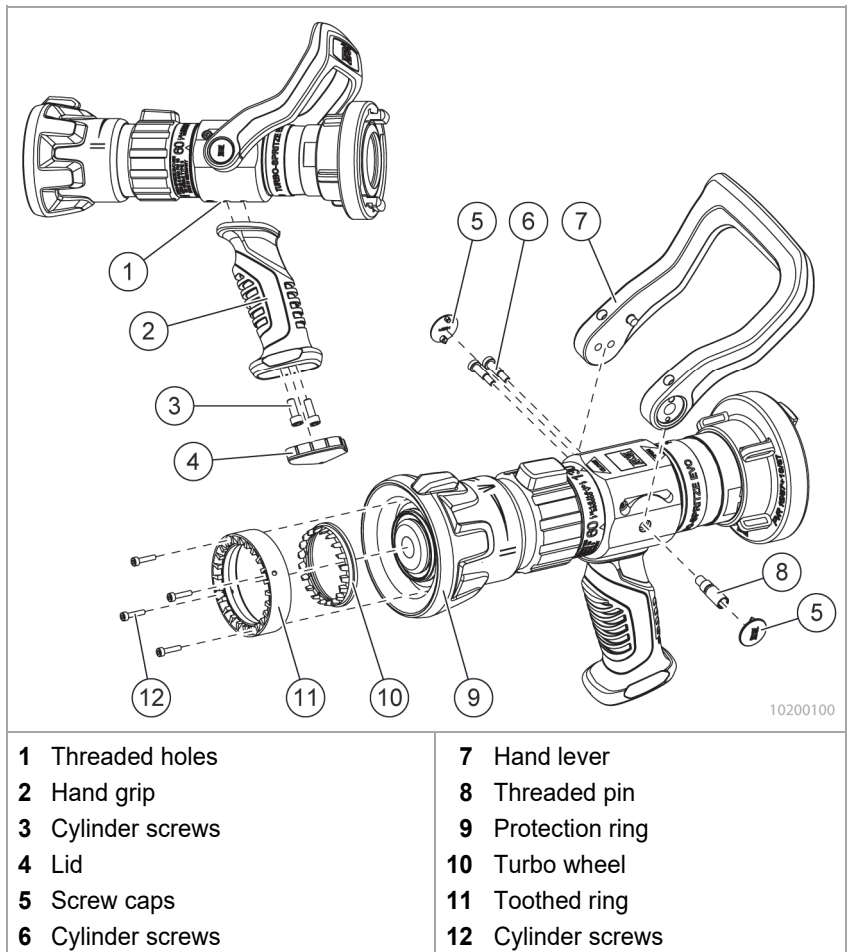

Fig. 3 Replacing the handle and hand lever
1. Remove the cover (Fig. 3/4) on the handle; this will damage the cover.
2. Unscrew the two cylinder screws (Fig. 3/3) and remove the handle (Fig. 3/2). Clean the housing if necessary.
3. Insert a cylinder screw into the borehole of the new handle, position the handle on the corresponding threaded hole of the housing (Fig. 3/1) and screw it tight.
1. Remove the screw caps (Fig. 3/5), this will damage the caps.
2. Unscrew the threaded pin (Fig. 3/8) and the cylinder screws (Fig. 3/6).
3. Remove the control lever (Fig. 3/7) and clean the valve housing if necessary.
4. Position the control lever in the correct position on the valve housing and screw it tight on one side with the threaded pin (Fig. 3/8).
5. Apply a medium-strength screw locking agent to the cylinder screws (Fig. 3/6), insert the cylinder screws and tighten them.
6. Insert new screw caps (Fig. 3/5).
1. Unscrew the four cylinder screws (Fig. 3/12).
2. Remove the toothed ring (Fig. 3/11) and the turbo wheel (Fig. 3/10) from the protection ring (Fig. 3/9).
4. First insert the protective ring, then the turbo wheel and the toothed ring. Apply a medium-strength screw locking agent to the cylinder screws (Fig. 3/12), insert the cylinder screws and tighten the toothed ring.